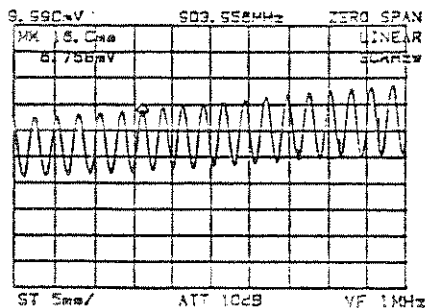

Figure 5-5 Reading the Time Display of Marker
- ⑨ Press the CTR FREQ key and turn the **Data knob** to adjust the signal level to make it the maximum.
- ⑩ Press the **TRIGGER** key and set the trigger mode to VIDEO.
- ⑪ Press the **SAMPLE DET** key and set the sweep time to a value that can be observed easily.
- ⑫ Press the **MARKER** and turn the **Data knob** to set the marker to the peak of the modulation signal. Keep recording the time indication of the marker at this time (Figure 5-5).